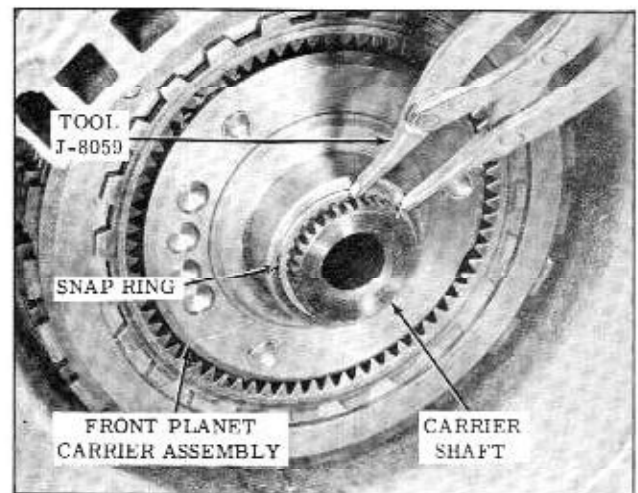

Fig. 3-48 Rear Carrier Snap Ring
46. Remove front carrier to rear carrier shaft snap ring. (Fig. 3-48)